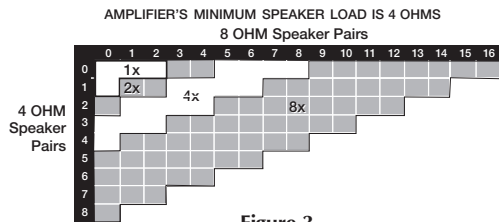
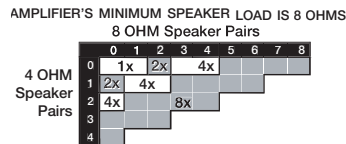
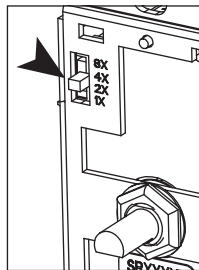

Figure 3
Figure 4
Figure 6
3. Read the correct switch position from the charts on the next page. See **Figure 3** if your amplifier can drive a 4-ohm load. See **Figure 4** if your amplifier must have an 8-ohm speaker load.
6. Set the Impedance Magnification Switch (See **Figure 6**) as determined by the IM charts (**Figures 3 and 4**).